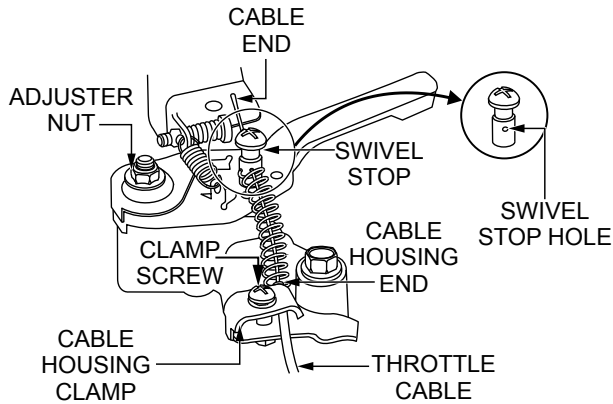

**Figure 7. Cable Yoke Attachment**
5. Insert the cable end through the yoke eyelet (Figure 7). Tighten brass set nut #1 by hand to remove all the slack from the cable.